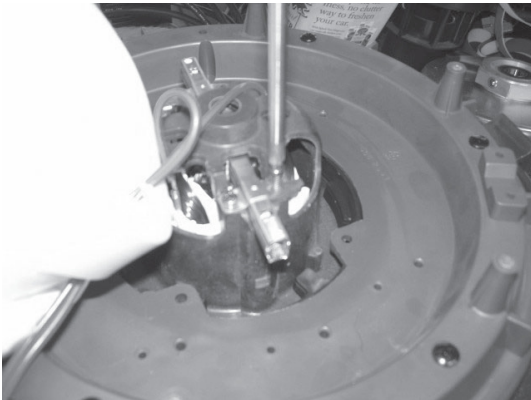

Figure 1
4. Remove the carbon brush assembly by removing the 2 screws that attach it to the vac motor. See Figure 1